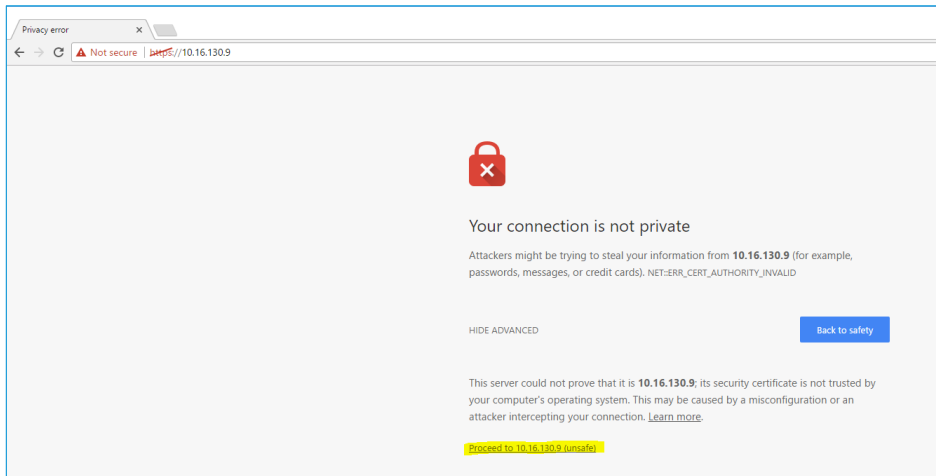

Figure 6: Web interface – second screen
5. Click **Proceed** (Figure 6).